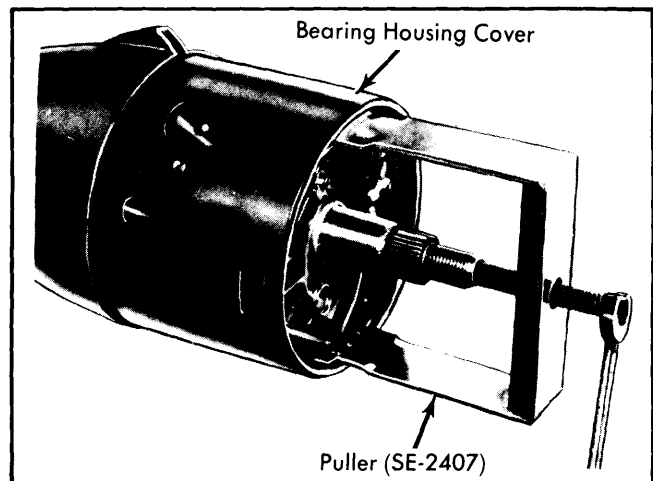

Fig. 7 Removing Directional Signal Housing Cover
4) Unscrew and remove tilt release lever. Place a suitable puller (SE-2407) in directional signal housing as shown in illustration (see Fig. 7).